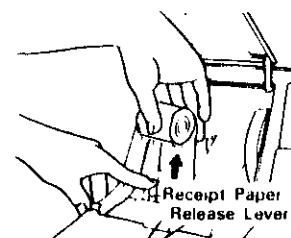

Fig. 4
- 2) Remove the paper core from the paper holder, pull out the release lever and pull the paper core upwards to remove the old paper tail (see Fig. 4).